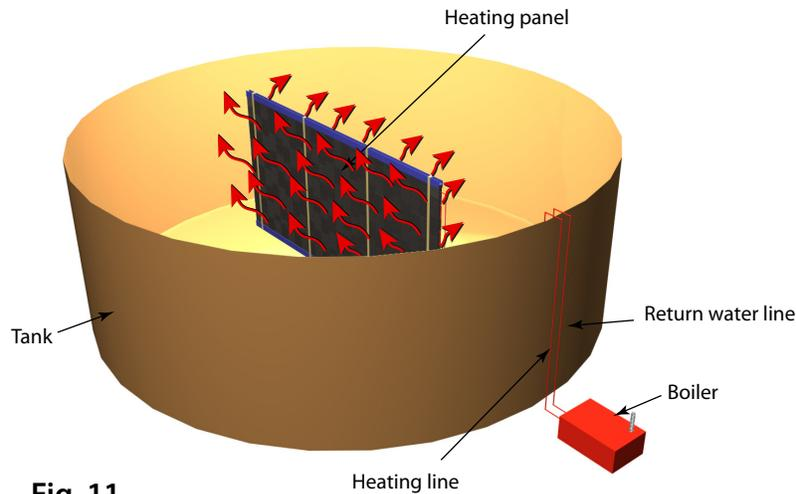
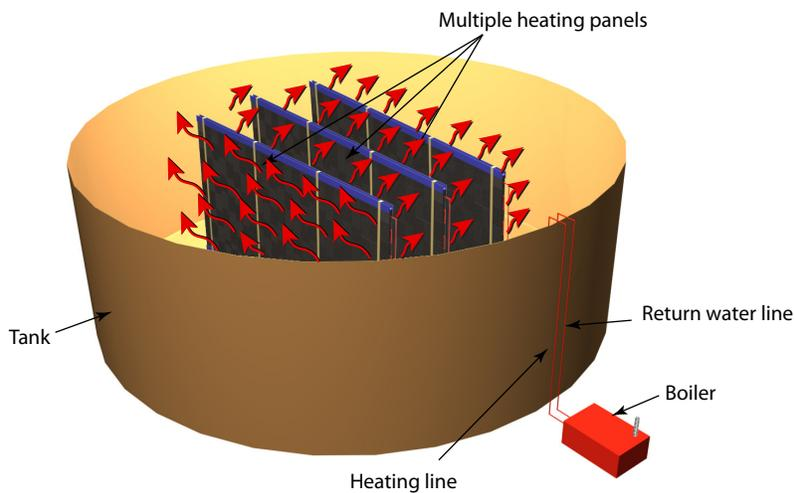

Fig. 11
Fig. 12
**Figure 11** shows one possible configuration to heat a tank of liquid. Here a single heating panel assembly is used. **Figure 12** shows how multiple heating panel assemblies can easily be added to increase heating or cooling capacity. The multiple units can be connected to the boiler by a distribution manifold or multiple boilers could be used.